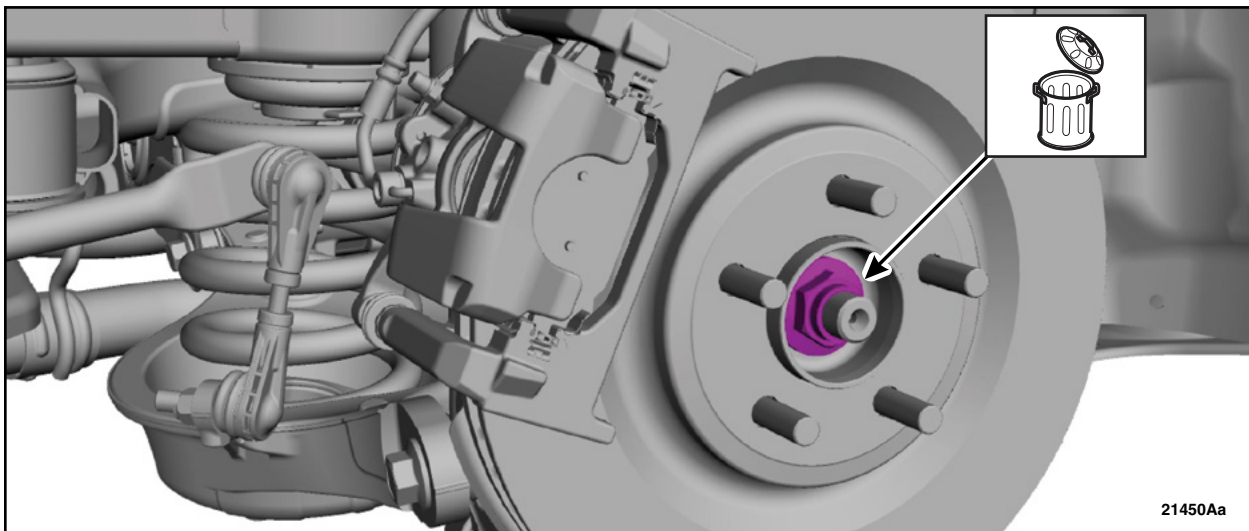

FIGURE 2
5. Remove and discard the wheel hub nut. See Figure 2.